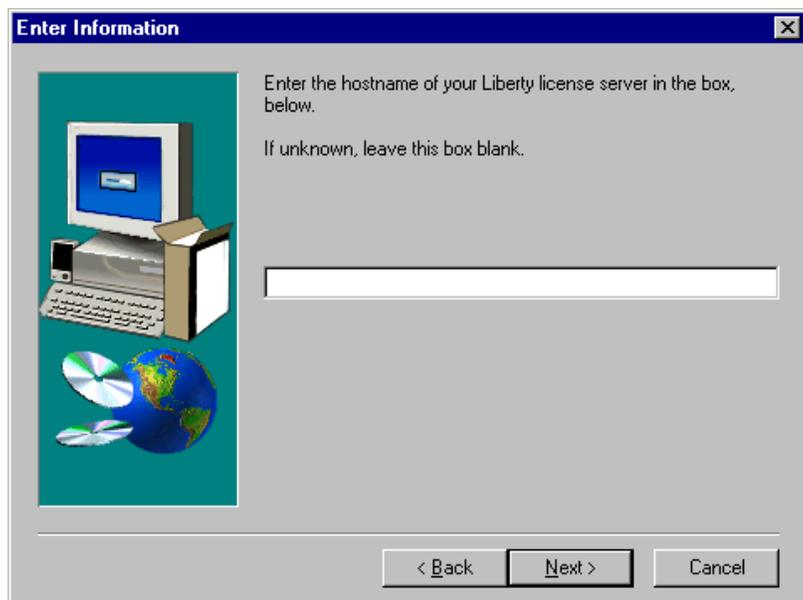

Figure 2-7. Hostname Selection
- [] 7. Next, you are prompted to enter the hostname of the computer where your Liberty license resides (Figure 2-7). The install script sets an environment variable, CHYRON_ELMHOST, to the hostname that you provide. If a hostname is not entered at this time, perform step 8 below. If a host name is entered, skip step 8 and proceed to step 9.